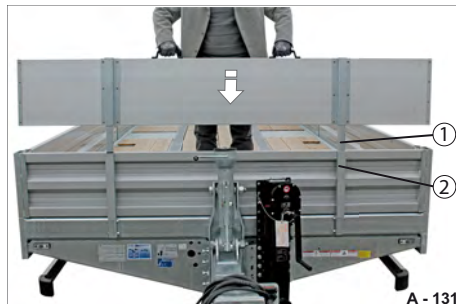

Fig. 190 Inserting the platform gate attachment
- ▶ Insert the slot-in posts of the platform gate attachment (Fig. 190/1) simultaneously into the posts (Fig. 190/2) of the front wall.